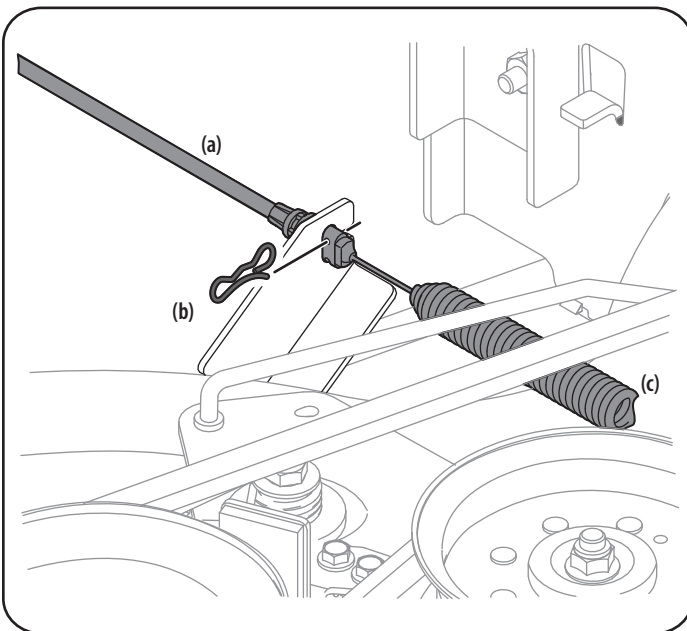

Figure 14
9. Carefully remove the PTO cable (a) from the rear of the cutting deck by removing the bow-tie clip (b) which secures it. Remove the spring (c) from the deck idler bracket. See Figure 14.